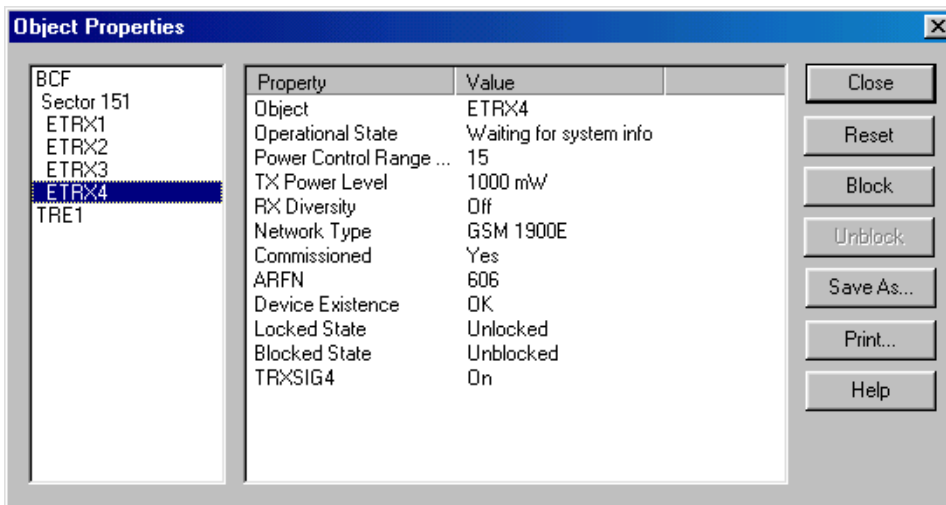

Figure 9. Example *Object Properties* window in Nokia BTS Manager (can be used for blocking a TRX)
2. Block the TRX using Nokia BTS Manager (if the sector is not already locked from the BSC). In the *Supervision - Equipment View* window, right click on the TRX image and select the BLOCK button in the *Object Properties* dialogue window (see Figure 9).